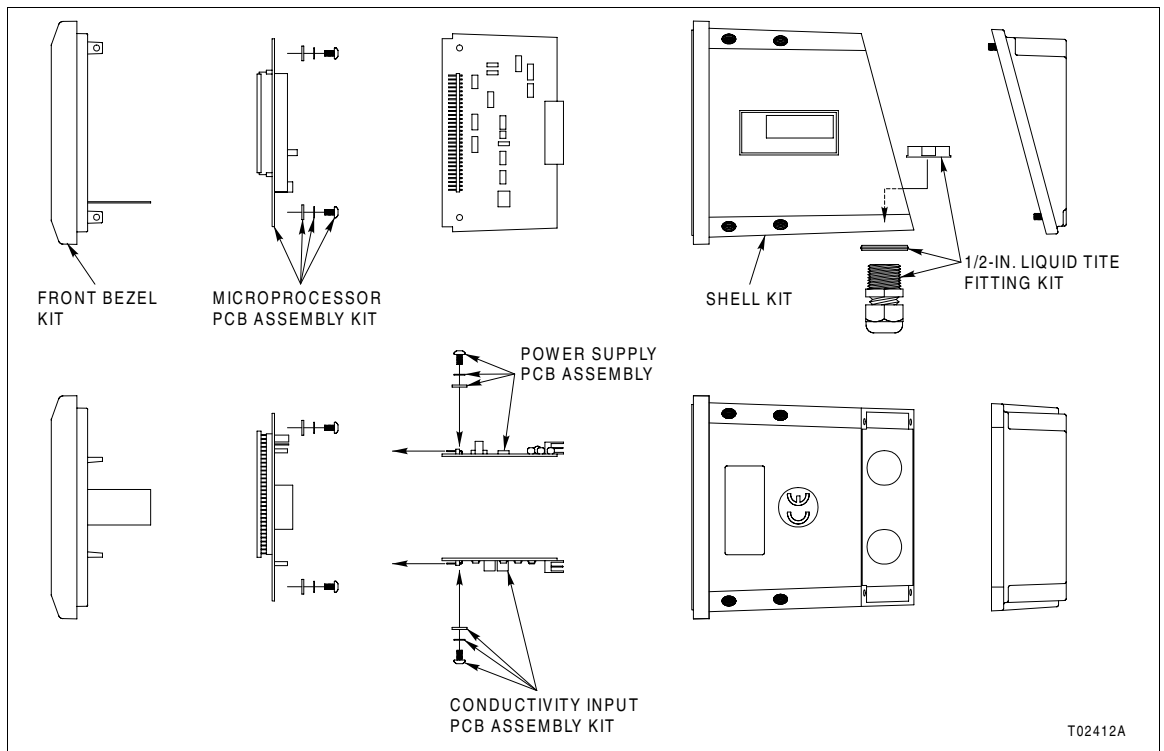

Figure PR49-1. Power Supply PCB Removal
1. Use the Phillips screwdriver to remove the two screws that retain the power supply PCB (Fig. PR49-1).